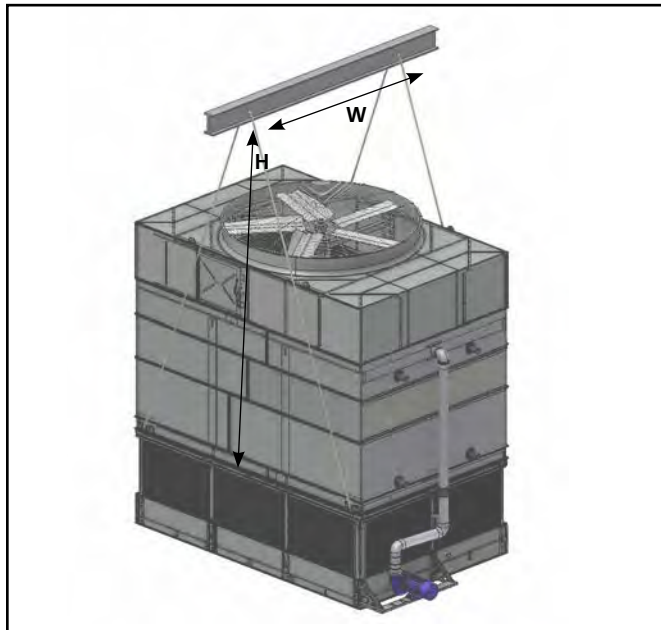
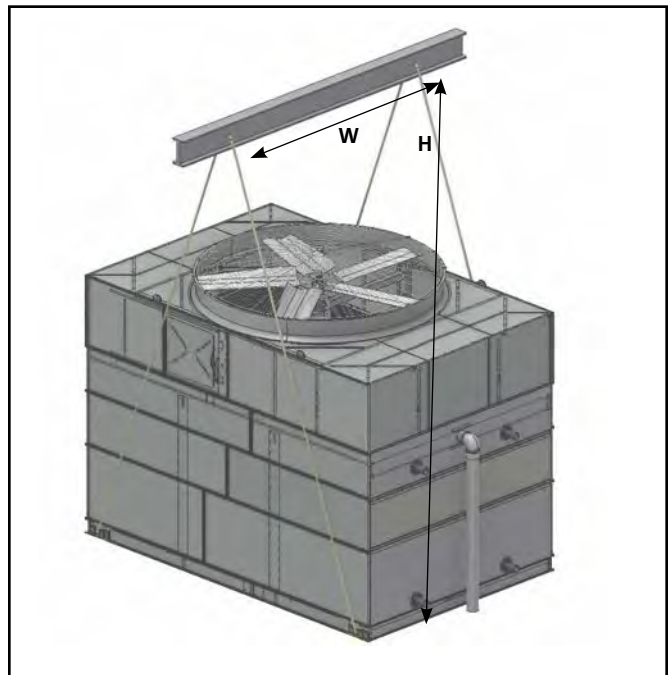

Figure 1 - Single-Piece Lift
Figure 2 - Upper Section Two-Piece Lift (Casing and Mechanical)
All standard single cell IDCF and IDC3 products (including models with the optional heavy gauge coil) are designed to be lifted in one assembled piece as shown in Figure 1. A two piece lift is shown in Figures 2 and 3. All sections, with the exception of the lower section, require the use of a spreader bar. The distance between the spreader bar lifting points must be equivalent to the width between the unit lifting ears.
1. Figures 2 and 3 show the proper rigging of sections for units that ship in two pieces.